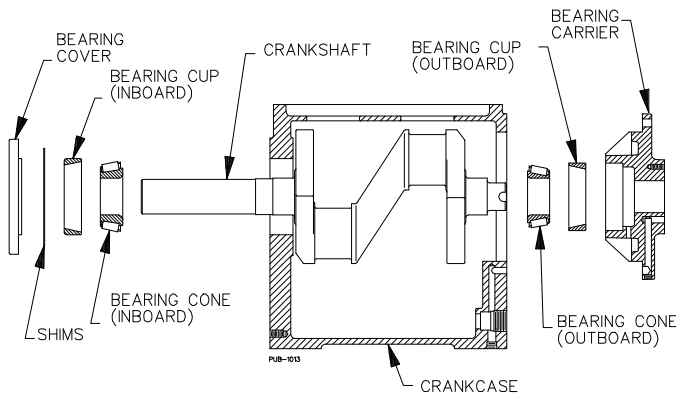

Fig. 11 - Bearing Locations
- b. Referring to Fig. 11 for the proper orientation, carefully press the inboard bearing cup into the crankcase until it is flush with the outer surface of the crankcase.